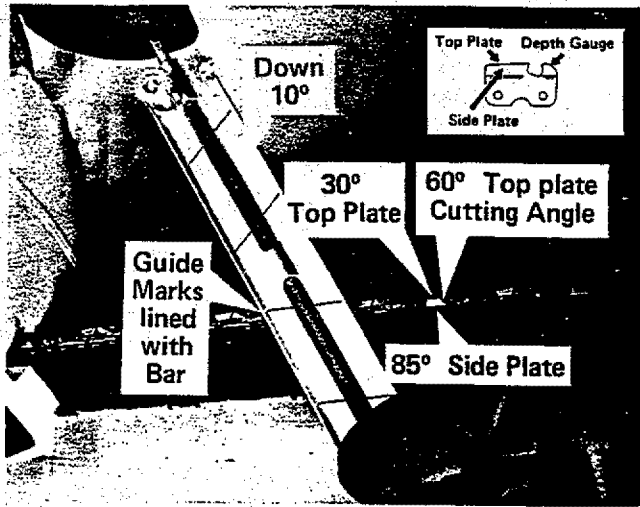

Fig. 26
2. There are three angles that must be maintained for a properly sharpened chain. See Figure 26. All three of these angles can be maintained accurately by using a file holder and file.
3. Place the file holder so it rides on both cutter top plate and depth gauge (Fig. 26) with guide marks in line with the bar. File the cutters on the side of the chain away from the cutting edge. Apply pressure on the forward stroke only. See Figure 26.
4. Hold file handle down 10 degrees as you make a few firm strokes away from your self, applying pressure against the cutting edge. Apply pressure on the forward stroke only. See Figure 26.